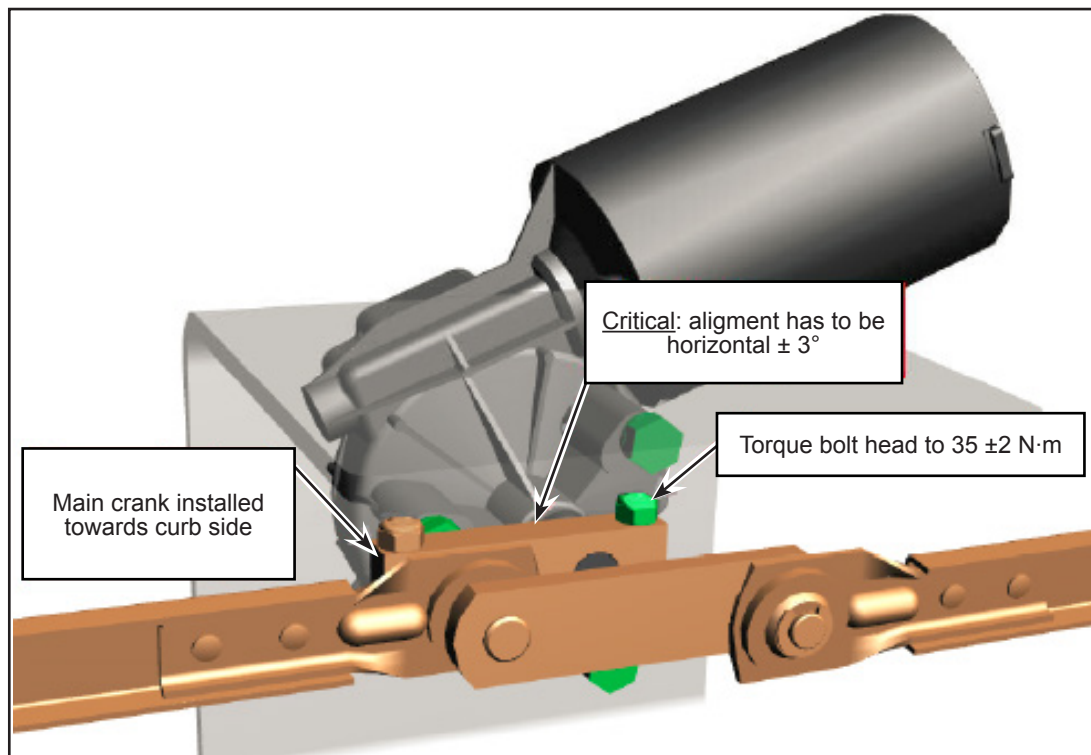

Figure 8 - Install the Main Crank
- 1.15. Slide the main crank onto the motor shaft splines. The main crank must be horizontal $\pm 3^\circ$. Make sure to align the mark made at step 1.9 with the slot on the main crank. See Figure 8.
- 1.18. Torque the main crank bolt head on the motor shaft to 35 ± 2 N·m. Apply anti-tamper seal. See Figure 8.